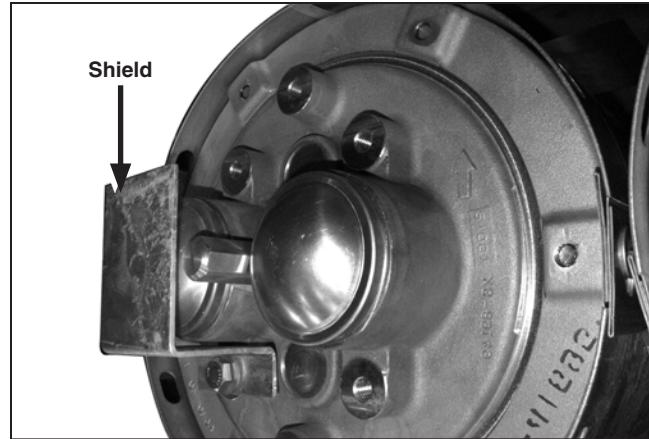

Figure 15. Removing the shield for the pressure-relief device.
- Remove the shield for the pressure-relief device. See Figure 15 on page 20.
- The pressure relief shield has been removed from the target-end of the interrupter (See Figure 15 on page 20)